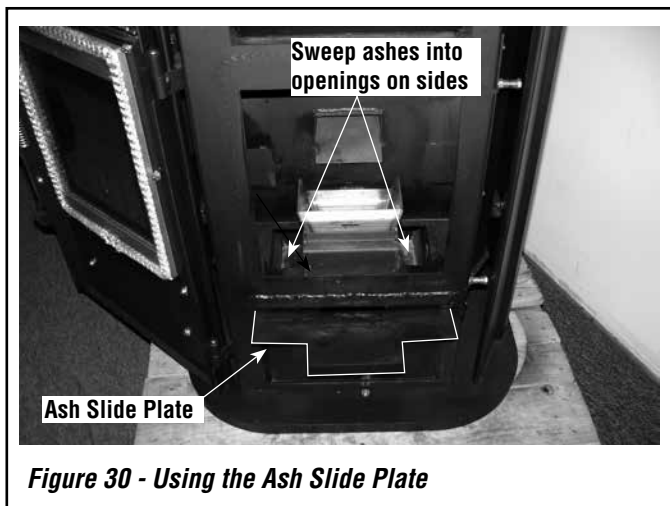

Figure 30 - Using the Ash Slide Plate
Inspect the UltraGrate periodically so that the air holes don't clog with ash or clinkers. The UltraGrate can easily be cleaned with the grate scraper tool, or it can be removed. It is very important to monitor the ash build up under the UltraGrate, as too much of ash will block combustion air from entering the grate, causing pellets to pile-up in the grate. A clogged grate will reduce the overall performance of the stove, cause dirty glass and if not cleaned may lead to smoke escaping the stove. The ash build-up under the grate is easily dumped into the ash pan by pulling out the ash slide weekly (see *Ash Slide Plate*, **Figure 30**).
2. Pull open the ash release slide plate as shown in **Figure 30**.